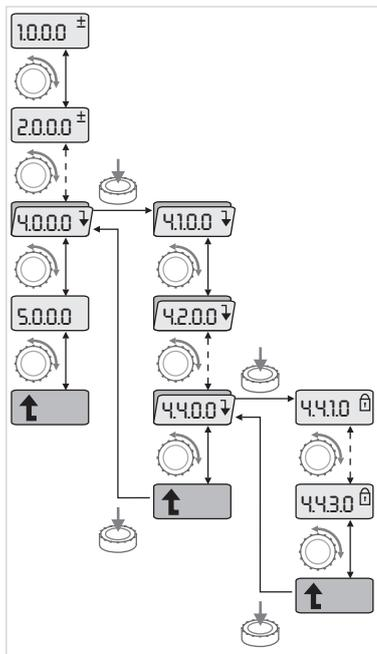

Fig. 34: Navigation example
- Carry out general menu navigation as follows (for an example, see Fig. 34):